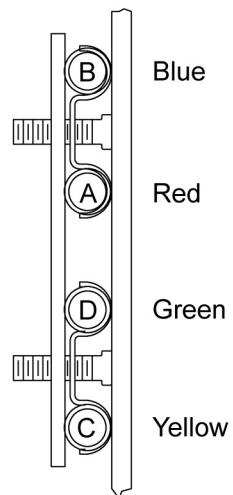

Figure 12. Loader Feedline Identification
1. Attach a 90-degree elbow (2) and male quick coupler (3) to each loader supply hose (1).
2. Connect loader supply hoses to loader feedlines as shown in Figure 12.
2. Connect loader feedline hoses to tractor remote hydraulic couplers. See Figure 12.